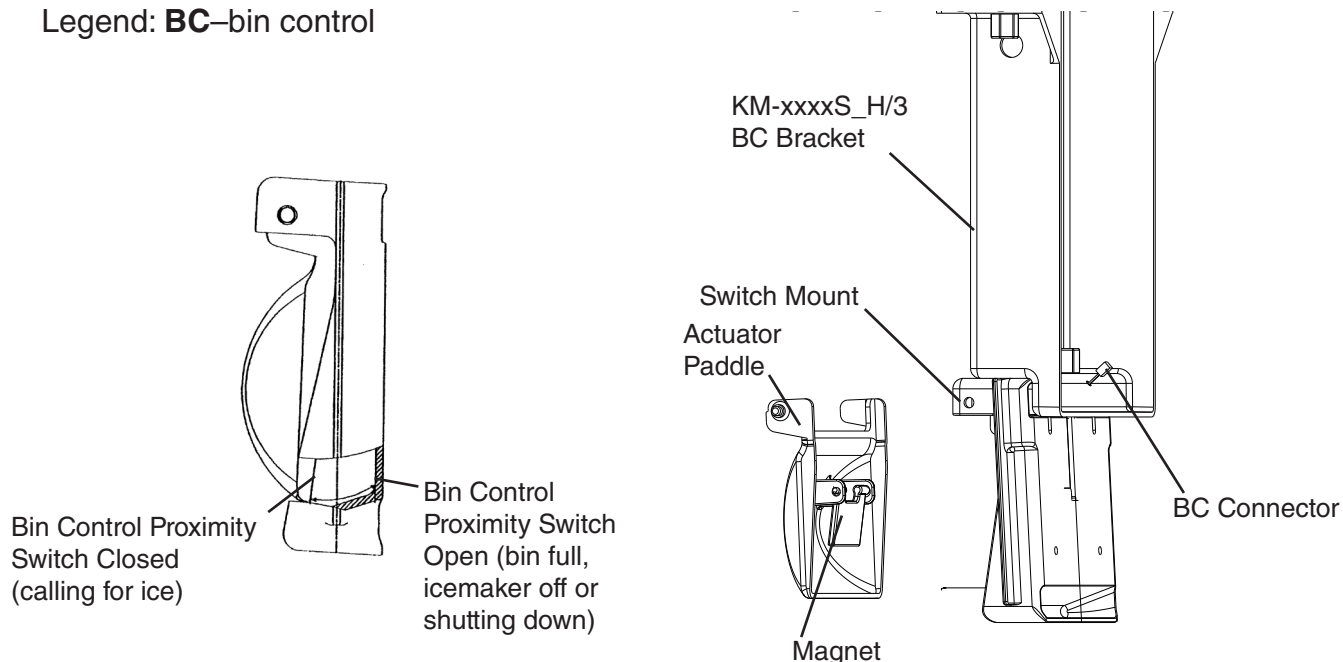

Fig. 10
- 5) Remove the actuator paddle from the switch mount. See Fig. 10.